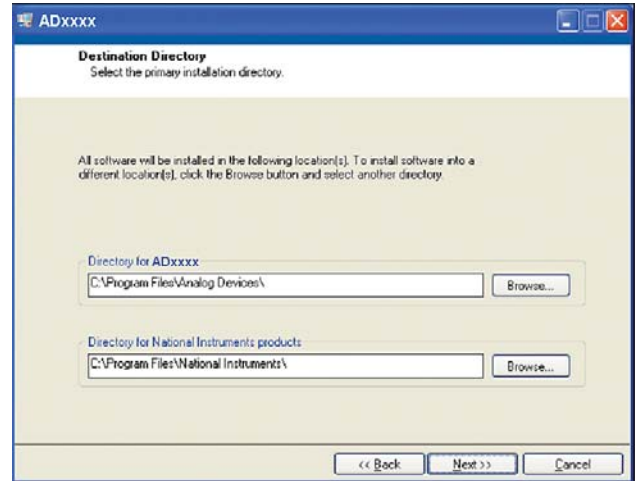

Figure 6. AD7124-4 EVAL+ Software Installation: Selecting the Location for Software Installation
4. Select the location to install the software, and then click **Next**. (Figure 6 shows the default locations, which are displayed when the window opens; you can select another location by clicking **Browse**.)